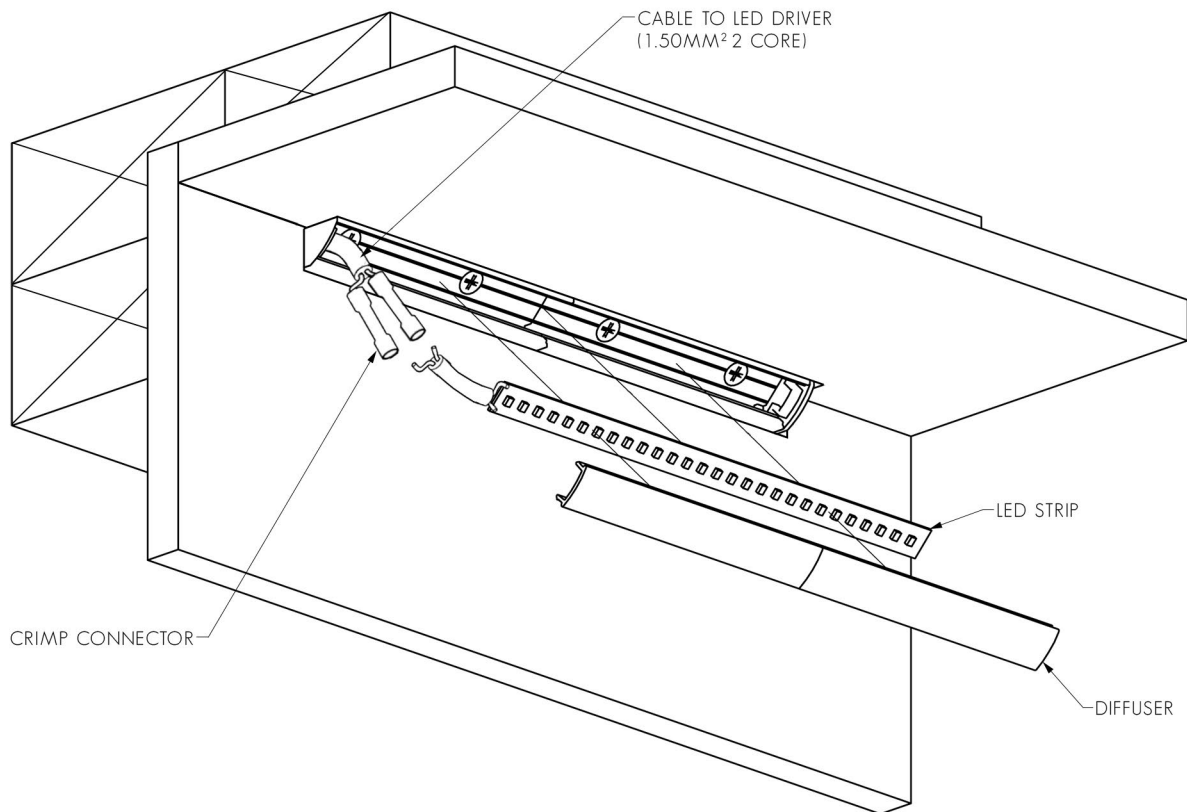

FIG. 2 - MAKE ELECTRICAL CONNECTION
1. MAKE ELECTRICAL CONNECTION: CONNECT LED STRIP TAILS TO LED DRIVER (SEE FIG. 2 IF SUPPLIED WITH MALE/FEMALE CONNECTORS).